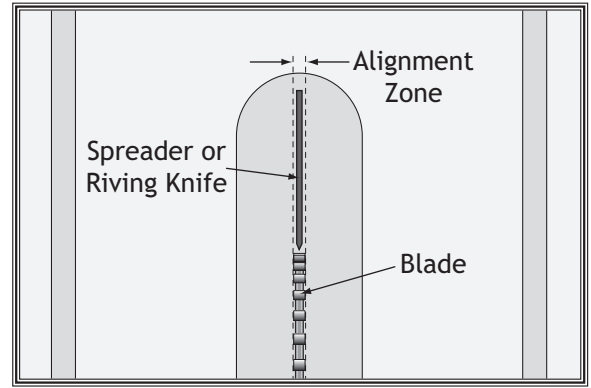

Figure 34. Spreader/riving knife alignment zone.
5. Place a straightedge against the blade and the spreader. When properly aligned, the spreader/riving knife will be parallel with the blade and in the "Alignment Zone," shown in **Figure 34**.